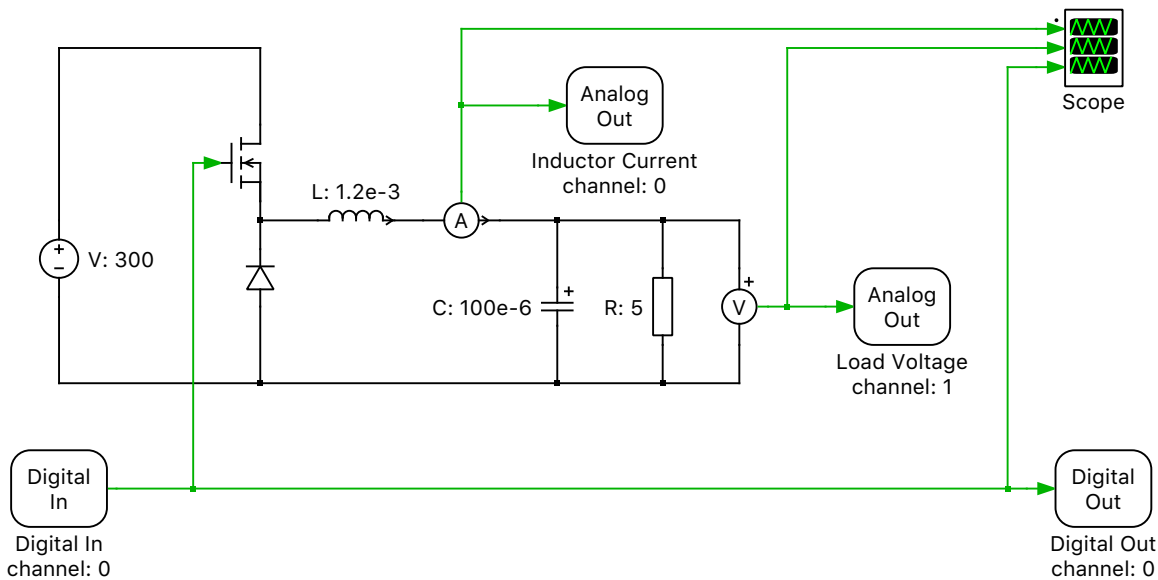
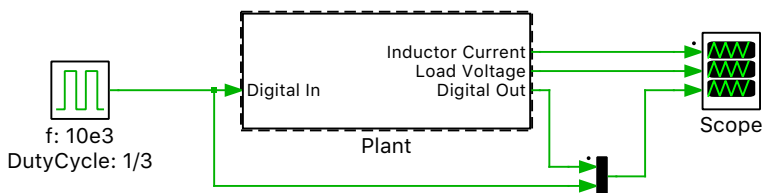

Figure 2: Buck converter model contained within the “Plant” subsystem
Figure 3: The top-level schematic with the subsystem simulation mode set to CodeGen
Refer to Figure 2 to see the structure of the “Plant” subsystem and Figure 3 for the top-level schematic. Leave all component parameters at their default values except for those identified in the schematic.
- 5 Right-click on the Plant subsystem and navigate to the **Subsystem + Simulation mode** option and change the simulation mode from **Normal** to **CodeGen**. You should notice the border of the Plant subsystem is now a dashed bold line, as shown in Figure 3.